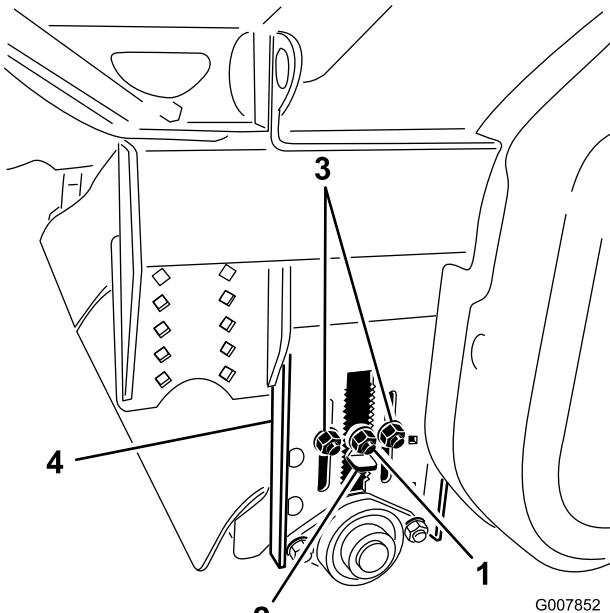

Figure 30
1. Before leveling the Core Processor, make sure the pickup brush and the rear roller height are adjusted to the correct height of cut (Figure 30). If the Core Processor is equipped with a new brush, the rear roller adjustment table can be referenced to set the rear roller for proper grass height of cut.